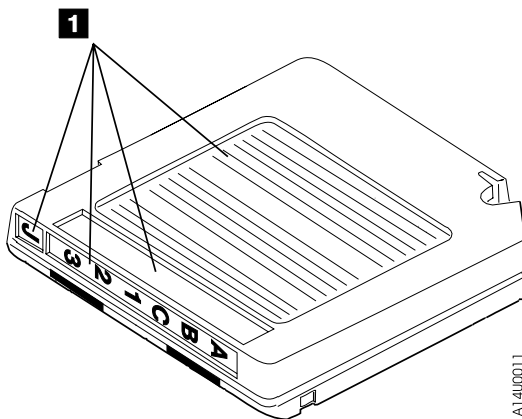

Figure 20. Cartridge Label Locations
Figure 20 shows all the label locations. The cartridge surface has recesses for label attachment (see item **1**).
There are two kinds of cartridge labels: A customer label and either a volume or a serial number label. Attach the customer label to the top surface of the cartridge. Then, attach the volume or serial number label to the side opposite the file-protect selector as shown in Figure 20 on page 86. Place the labels in the recessed cartridge label areas only. Labels that extend outside of the recess areas can cause loading problems in the drive, particularly when using the automatic cartridge facility.
1. Figure 20 on page 86 illustrates that the IBM 3590 High Performance Cartridge Tape must have a J label affixed in the seventh label position. The presence of this label distinguishes 3590 cartridges from other types that may be in a library inventory. Although similar in appearance to other tape cartridges, the IBM 3590 High Performance Cartridge Tapes are not interchangeable.